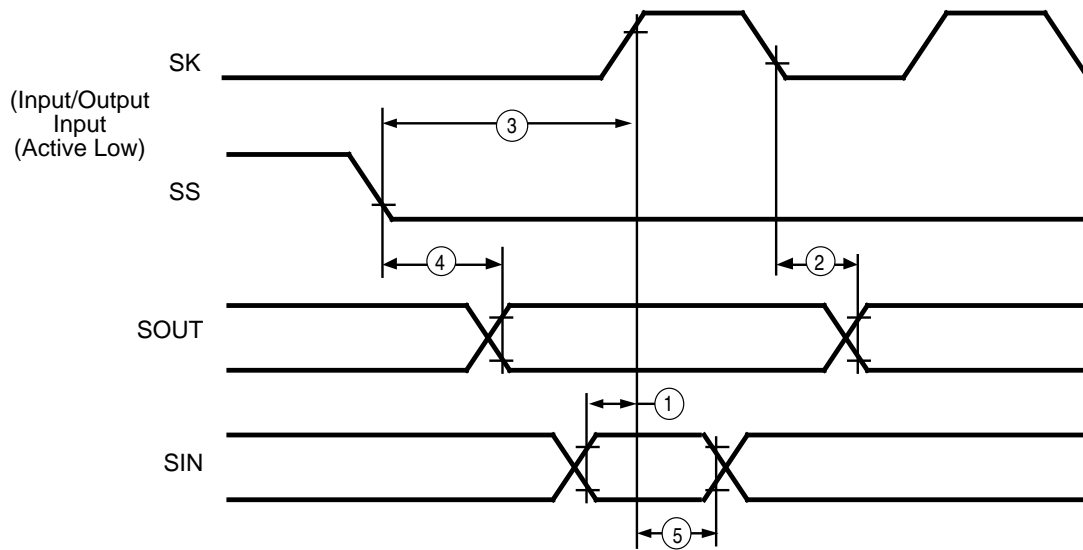

Figure 25. SPI Timing
When the communication between the master and slave is complete, the SS goes High. Unless disconnected, for every bit that is transferred into the slave through the SIN pin, a bit is transferred out through the SOUT pin on the opposite clock edge. During slave operation, the SPI clock pin (SK) is an input (Figure 25). In master mode, the DSP must first activate a SS through one of it's I/O ports. Next, data is transferred through the master's SOUT pin one bit per master clock cycle. Loading data into the shift register initiates the transfer. In master mode, the master's clock drives the slave's clock. At the conclusion of a transfer, a Receive Character Available SPI interrupt and flag is generated. Before data is transferred through the SOUT pin, the SPI Enable bit in the SCON Register must be enabled. The MSB bit 7 is shifted out first.